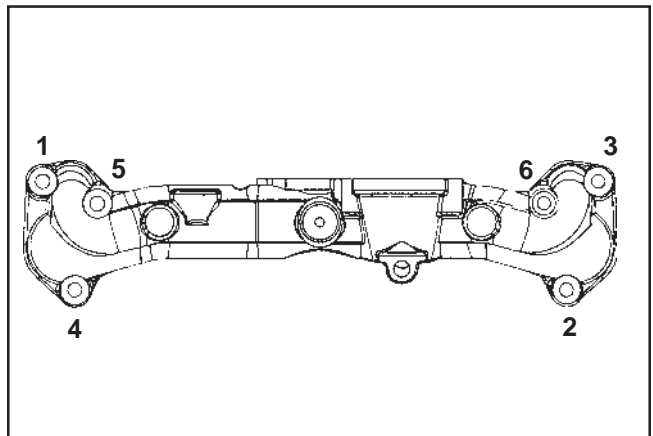

Figure 11-58. Intake Manifold Torque Sequence.
3. Set the intake manifold, with by-pass hose and wiring harness attached, down into position onto the gaskets and cylinder heads. Install and finger tighten the six hex. flange screws in their appropriate locations. Make sure the clamps for the wiring harness are positioned on the long screw on each side. Torque the six intake manifold mounting screws in two steps: initially to **7.4 N-m (66 in. lb.)**, then to **9.9 N-m (88 in. lb.)** in the sequence shown. See Figure 11-58.